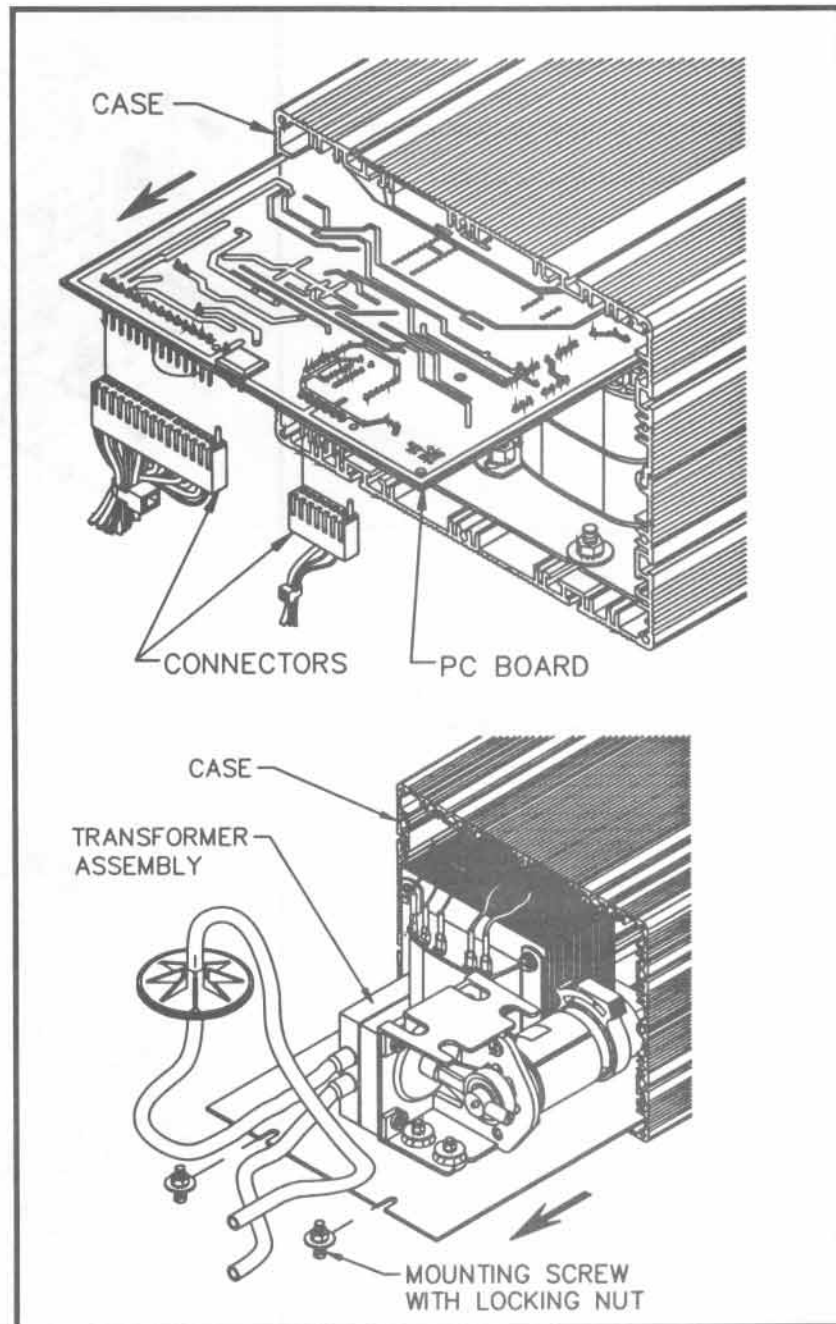

FIGURE 29. REMOVING PC BOARD & TRANSFORMER ASSEMBLY
13. Carefully place the PC Board on top of the transformer assembly and reconnect panel cabling and hoses removed in steps 7 and 8 (see Figure 29). Check to insure that the PC Board is not shorting to the transformer or motor pump assembly.